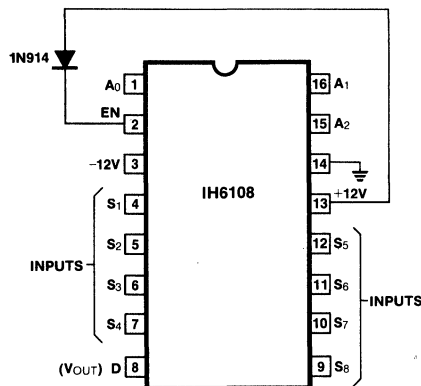

Figure 6. IH6108 Connection Diagram for less than $\pm 15V$ Supply Operation.
Caution must be taken to ensure that the enable (EN) voltage is at least 0.7V below V^+ at all times. If this is not done the Address input strobing levels will not function properly. This may be achieved quite simply by connecting EN (pin 2) to V^+ (pin 13) via a silicon diode as shown in Figure 6. When using this type of configuration, a further requirement must be met—the strobe levels at A0 and A1 must be within 2.5V of the EN
voltage in order to define a binary "1" state. For the case shown in Figure 6 the EN voltage is 11.3V which means that logic high at A0 and A1 is $+8.8V$ (logic low continues to be $= 0.8V$). In this configuration the IH6108 cannot be driven by TTL (+5V) or CMOS (+5V) logic. It can be driven by TTL open collector logic or CMOS logic with +12V supplies.